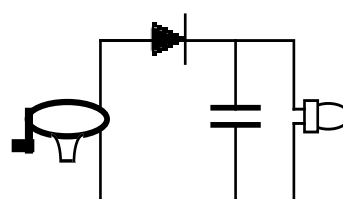

Figure 9.6c
3. Connect the 25,000 μf capacitor as shown in Figure 9.6c and record your observations.